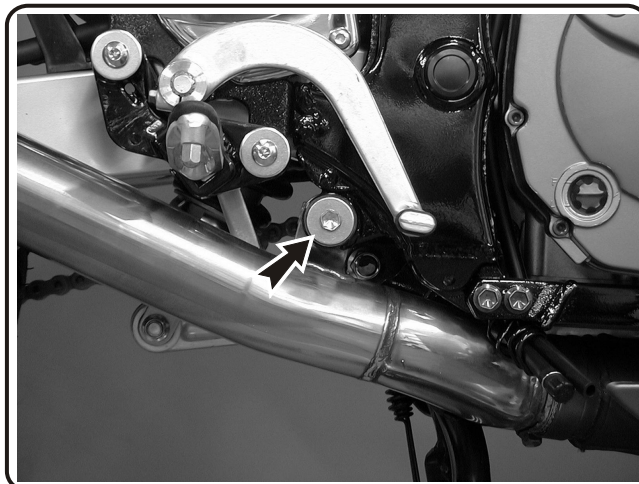

Fig. 1
- 4 Secure tailpipe to stock chassis mount using supplied bolt, washer and nut. Hand tighten only at this point. (See Fig. 1)